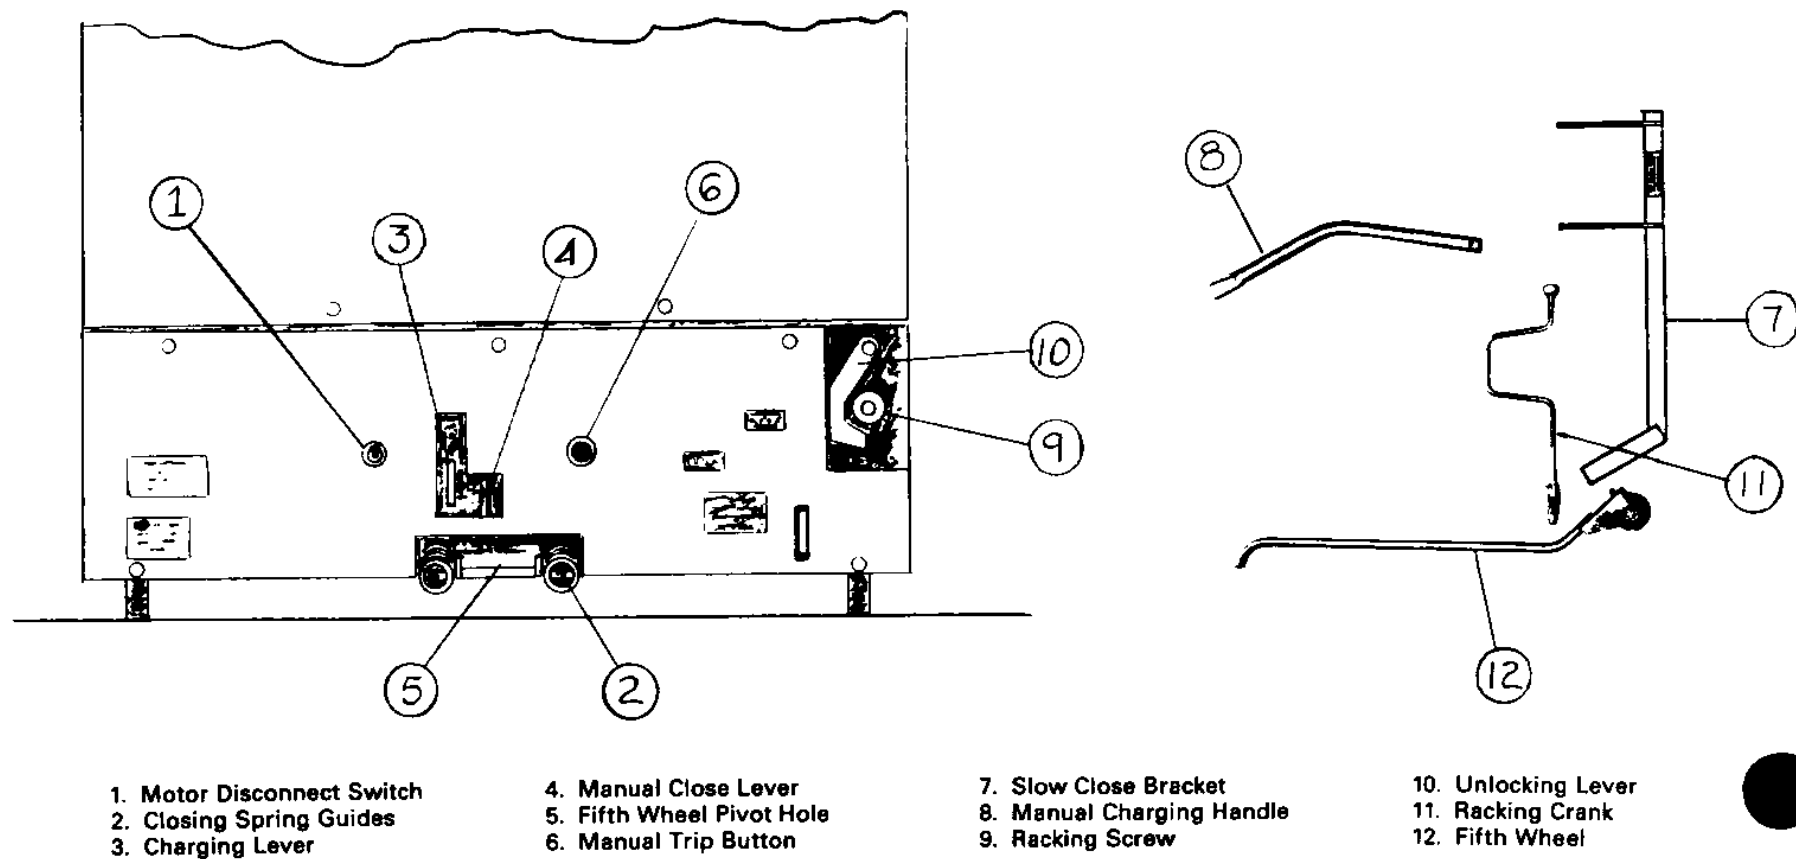

Fig. 4—Front Circuit Breaker Panel and Accessories
3.6 MANUAL SLOW CLOSE PROCEDURE (See Fig. 4)
3.8 INSTALLING CIRCUIT BREAKER INTO COMPARTMENT (See Figures 4 and 5)
1. Turn motor disconnect switch (if supplied) (1, Figure 4) to "OFF" position.
3. Engage fifth wheel with hole guide (12, Figure 4) and push circuit breaker into compartment until stopped. (If closing springs were left in charged condition, they will automatically discharge.)
6. With the circuit breaker racked to "TEST" position, check for proper operation by operating all possible means of opening and closing. This includes control switches, relays, etc. Turn motor disconnect switch (1, Figure 4) to "ON" position to charge the closing springs, and operate the breaker as required. If motor disconnect switch (1, Figure 4) is not provided, springs will